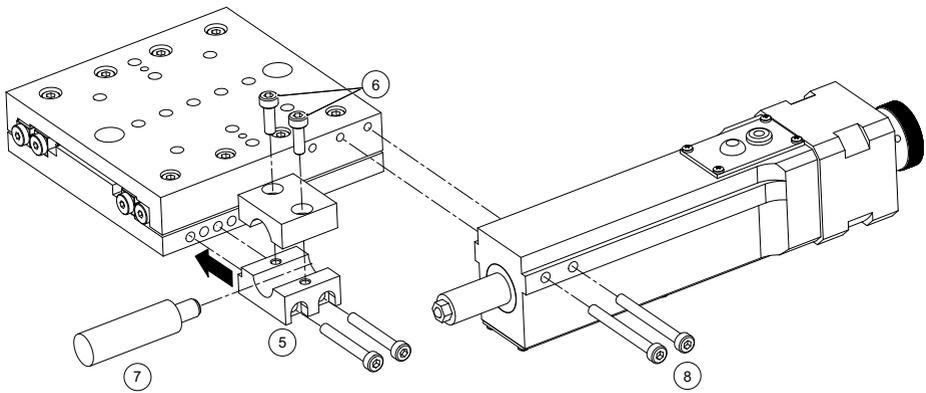

Fig. 3.8 Reconfiguring the Actuator Position
Referring to Fig. 3.8 on the next page:
- 5) Refit the push block mounting block on the opposite side of the stage as shown in Fig. 3.8 and tighten the attachment bolts.